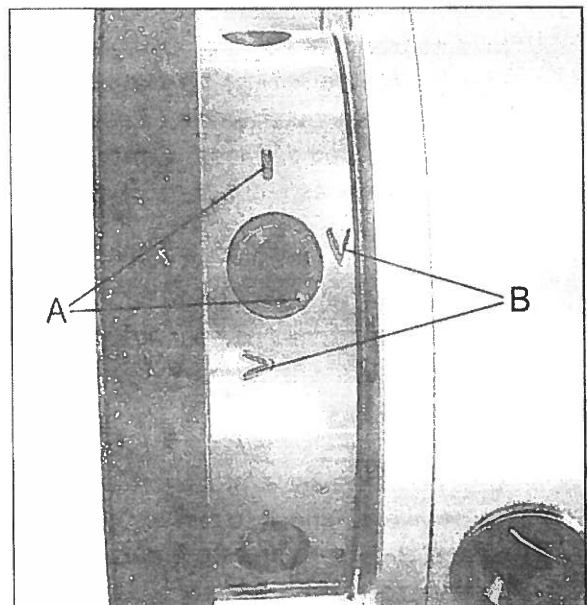

Fig.2
6. Lift the chuck up to the spindle nose and press onto the spindle. Tighten in place by turning the cam locks 1/4 turn clockwise. The index mark(A, Fig.2) on the camlock should be between the two indicator arrows(B, Fig.2). If the index mark is not between the two arrows, remove the chuck and adjust the camlock studs by either turning out one full turn(if cams will not engage) or turning in one full turn (if cams turn beyond indicator marks).